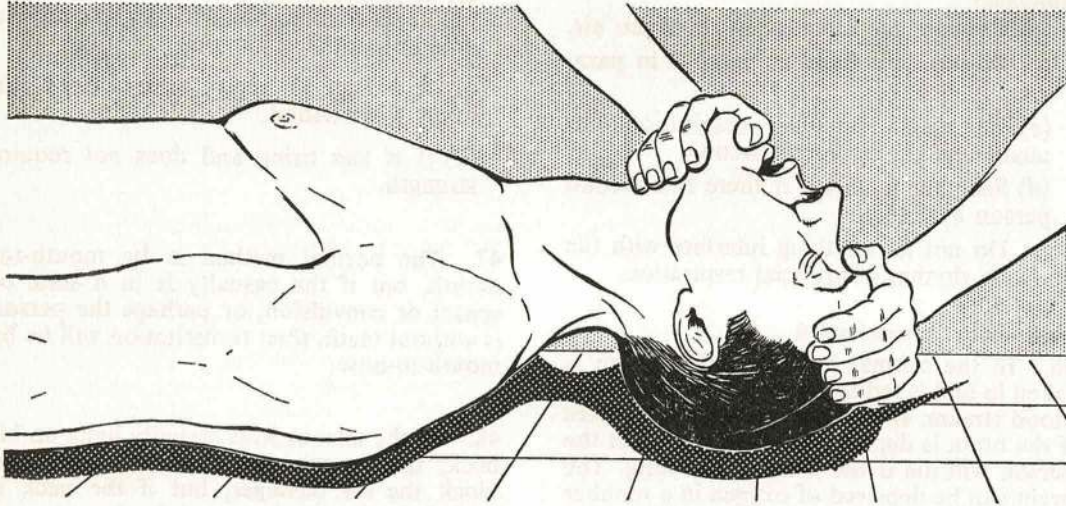

Fig. 9. PREPARE FOR INFLATION
49. With the casualty lying on his back, hold the head in both hands, one hand pressing the head backwards and the other pushing the lower jaw upward and forward (Fig. 9). Open your mouth wide, take a deep breath, seal your lips around the casualty's mouth, while obstructing his nostrils with your cheek or pinching them together with your fingers, and blow into his lungs.